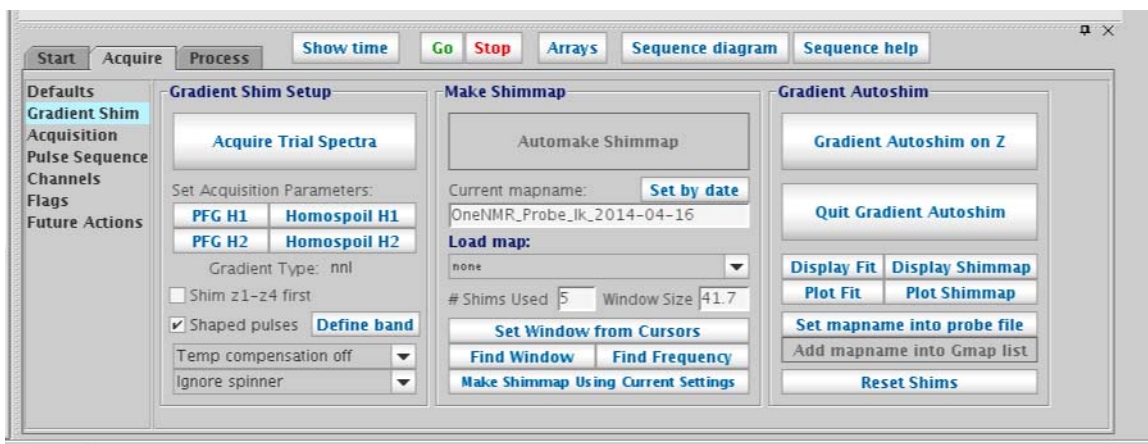

Figure 14 Gradient Shim panel with Define band button enabled
- 1 Select the **Shaped Pulses** check box in the Gradient Shim panel. This will enable the “Define band” button (Figure 14).